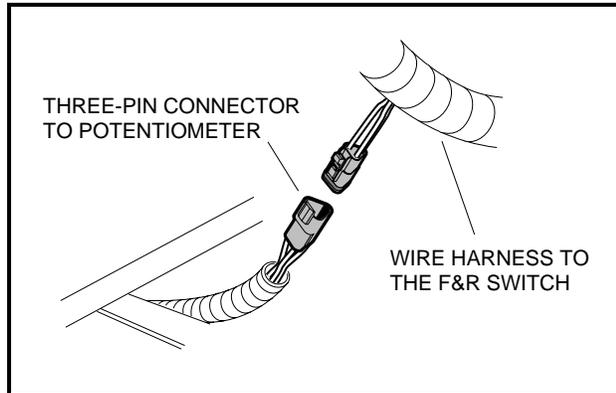

Figure 11-25 Three-Pin Connector
1. Disconnect the battery cables (negative cable first) and then disconnect the three-pin connector from the main wire harness. The connector emerges from under the front body floorboard (**Figure 11-25, Page 11-18**). Turn key switch ON and place Forward/Reverse handle in NEUTRAL.
- 2.1. Disconnect the three-pin connector (connects the potentiometer to the Forward/Reverse wire harness) from the Forward/Reverse wire harness. The connector emerges from under the front body floorboard (**Figure 11-25, Page 11-18**).